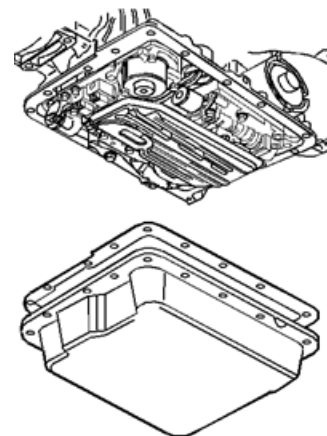

Figure 10
- 27. Install the oil pan and a new gasket. **Reference Figure 10.**